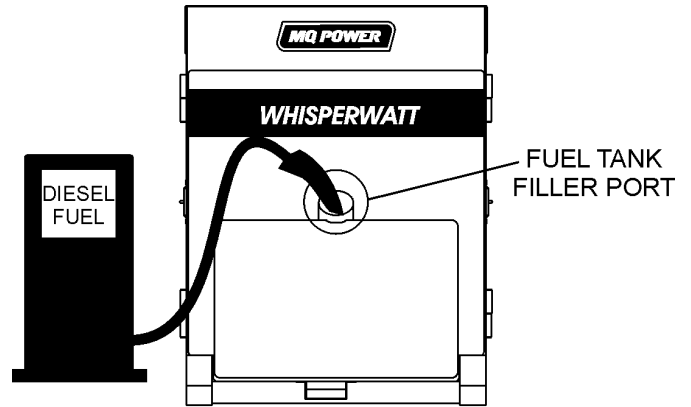

Figure 30. Fueling the Generator
- Open cabinet doors on the “right side” of the generator (from generator control panel position). Remove fuel cap and fill tank (Figure 30).